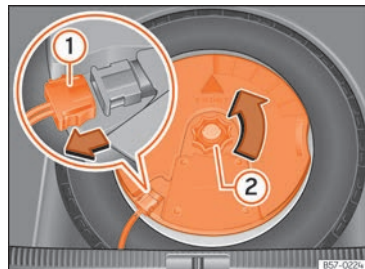

Fig. 275 In the boot: remove the subwoofer.
- Disconnect the cable for the subwoofer speaker »» Fig. 275 ①.
- Turn the securing wheel anti-clockwise ②.